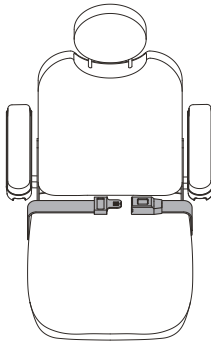

Figure 8. Positioning Belt Adjustment
Your power chair may be equipped with a positioning belt that can be adjusted for operator comfort. **See figure 8.** The positioning belt is designed to support the operator so that he/she does not slide down or forward in the seat. The positioning belt is not designed for use as a restraining device.
1. Once seated, insert the metal tab on one side of the belt into the plastic housing on the opposite side until you hear a click. **See figure 8.**